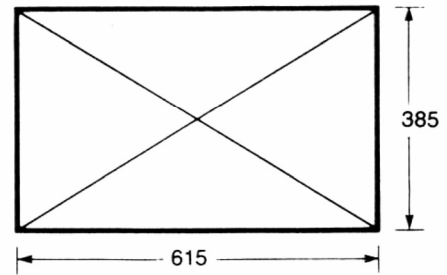

Fig. 2
3. Working from the inside, mark out the position of the hole to be cut 615mm wide x 385mm high. Mark the centre point by drawing diagonals (see Fig. 2).